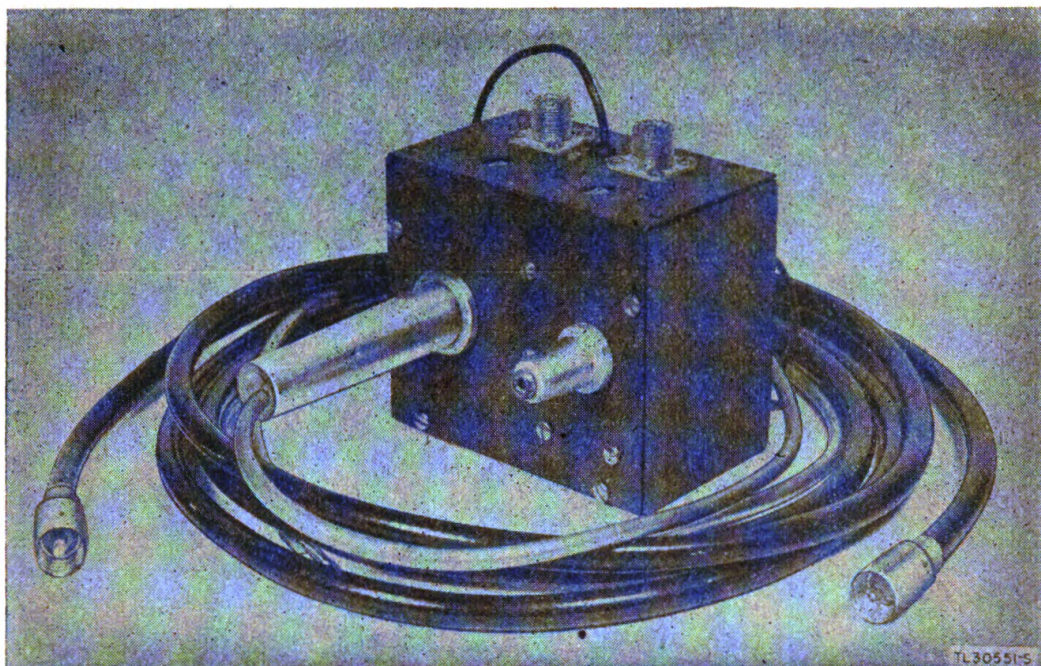

Figure 11. Voltage Divider TS-265/UP.
13. VOLTAGE DIVIDER TS-265/UP (fig. 11).